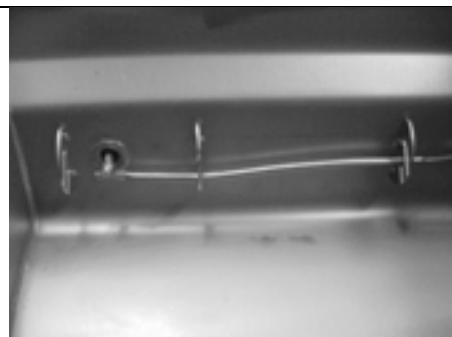

Figure 2.
1. Drain oil to drain pan and visually inspect the high limit bulb and capillary tube mounted inside the fry pot. Ensure the bulb is not dented, the capillary tube is not severed and the bracket matches figure 1. (PFE-500) or figure 2. (PFG-600). If the capillary tube or bulb is damaged, take the fryer out of service until it is replaced. Replace any missing bracket components. If there are no issues found with this step, proceed to step number 2.